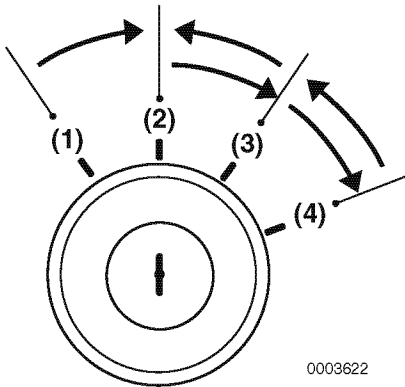

Figure 8
The GLOW position (**Figure 8, (1)**) is the start aid position. Electric current to the air heater (if equipped) is turned on.
The START position (**Figure 8, (4)**) allows current to the starting motor. When starting the engine, move the key to the START position and release. The key will automatically move to the ON position.
When the key is in the OFF position (**Figure 8, (2)**) the electric current is off. The key can be inserted or removed in this position.
The ON position (**Figure 8, (3)**) allows electrical current to the controls and equipment and allows the engine to keep running. To stop the engine, keep the key switch in the ON position and push the engine stop button. After stopping the engine, turn key to OFF position.